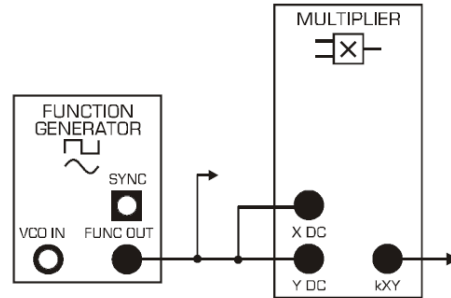

Figure 2-3 Diagram of “Multiplying” System
5. Connect the FUNC OUT terminal of the FUNCTION GENERATOR to the MULTIPLIER inputs. Connect both inputs in parallel. Connect CH0 to this input. Connect CH1 to the MULTIPLIER output, as shown in Figure 2-3. The settings required are as follows: